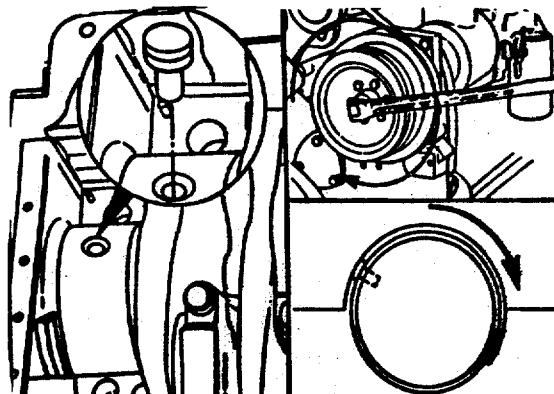

FIGURE 4-45. *Removing Main Bearing Shell.*
- (9) To remove the upper main bearing shell, install a tool similar to the one in the oil hole of the main bearing journal as shown in FIGURE 4-45 .